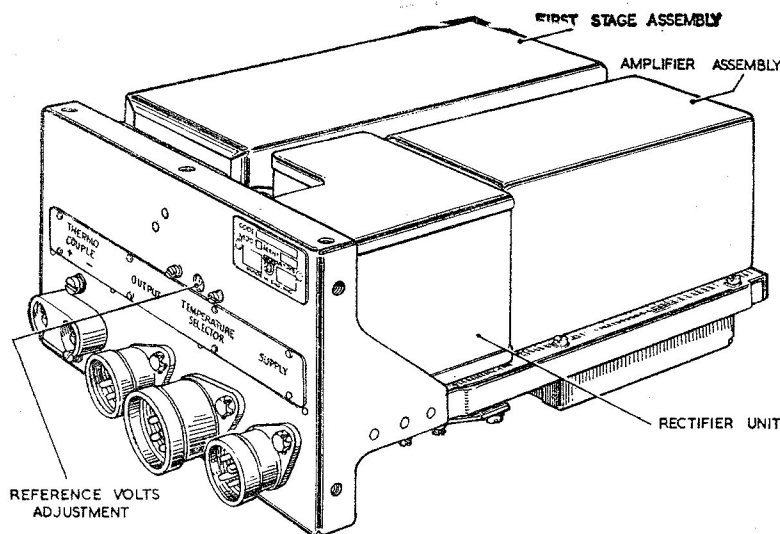
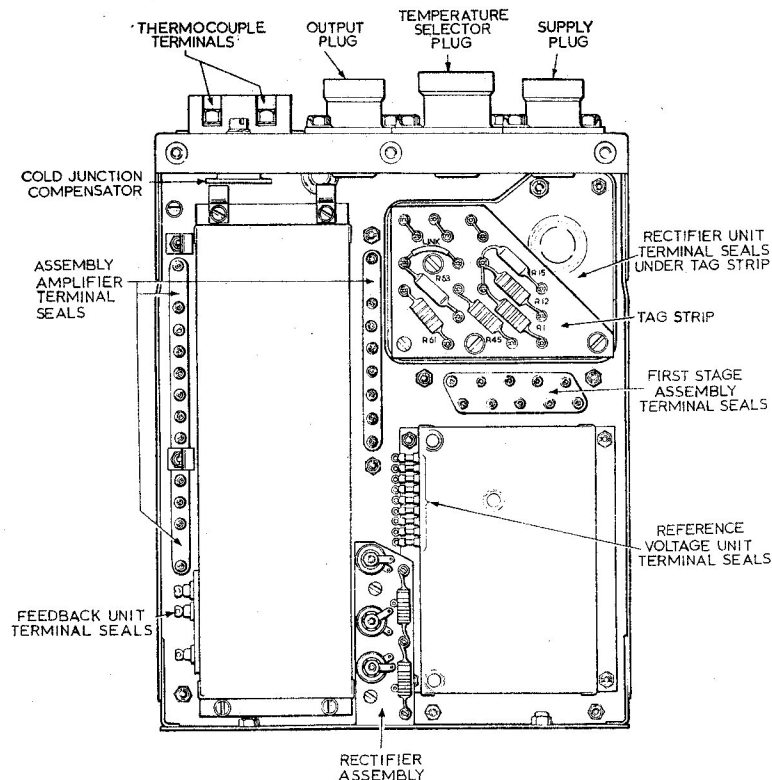

Fig. 1. Amplifier, with cover removed
Fig. 2. Underside of amplifier
2. The components of the amplifier are mounted on a fabricated aluminium alloy chassis which is attached to the front panel. The whole assembly may be withdrawn from the cover after removing the four securing screws. The first stage assembly, amplifier assembly and rectifier unit are mounted above the chassis (*fig. 1*), and the reference voltage unit and feedback unit below the chassis (*fig. 2*). These sub-assemblies are contained in metal cases sealed against the ingress of moisture.